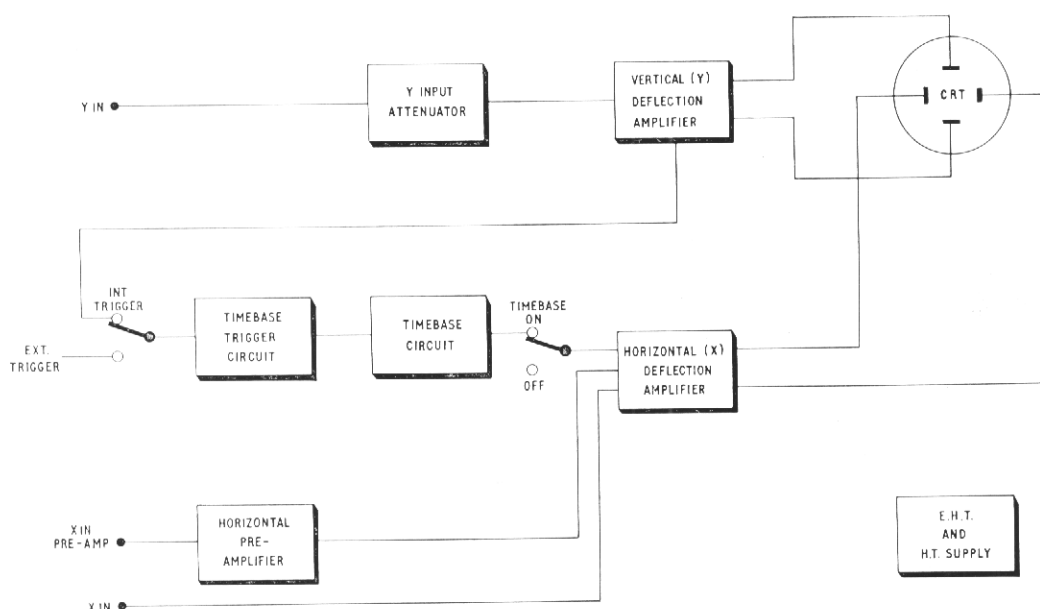

Fig. 2 Functional Diagram
A functional diagram of the oscilloscope is shown in Fig. 2, the full circuit diagram of the instrument is shown in Fig. 7 (Section 6). The oscilloscope comprises seven sections: input attenuator, vertical deflection (Y) amplifier, timebase trigger circuit, time base generator, horizontal (X) amplifier, horizontal (X) pre-amplifier, and the CRT.
4.3 VERTICAL DEFLECTION (Y) AMPLIFIER